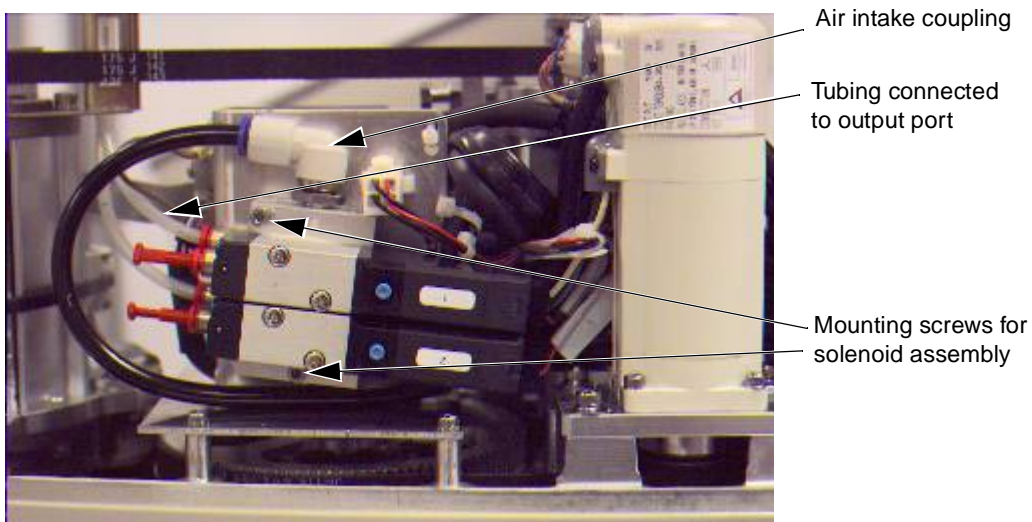

Figure 6-6. Solenoid Placement Using Mounting Hardware
5. Mount the solenoid manifold onto the bracket using the supplied M3 x 25 mm screws (see Figure 6-6 on page 104).